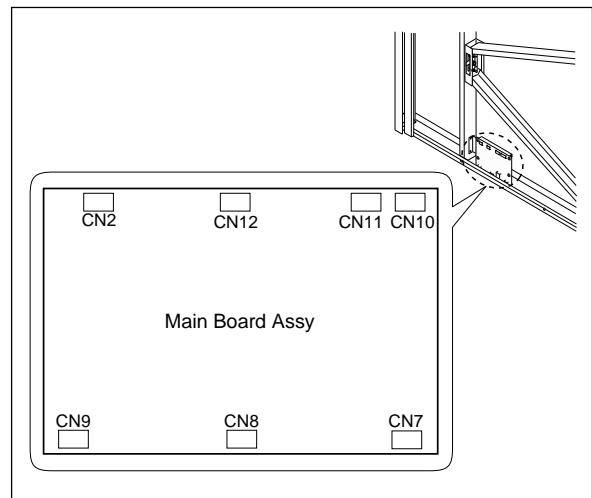

Fig. 3
2) Remove the Main Board Assy. (See Figs. 3 and 4.)
1. Disconnect the connectors (CN2, 7~12) connected to the Main Board Assy shown in Fig. 3.